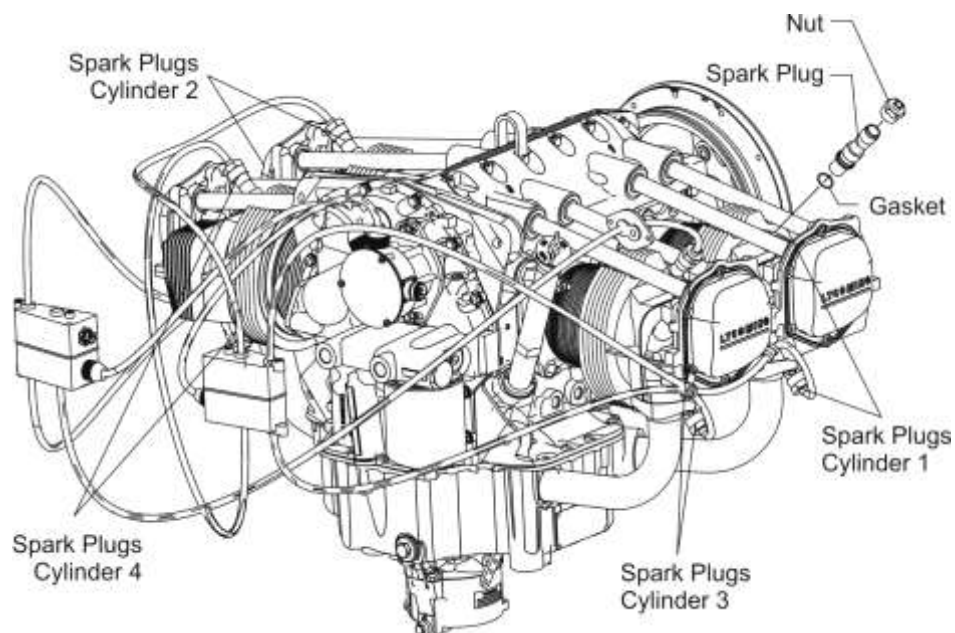

Figure 1
- C. Identify and tag the location of all the spark plugs (Figure 1).